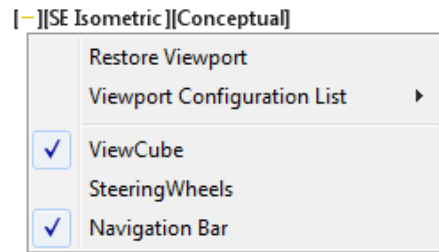

Figure Step 2
Step 2 Click the small dash on the left side of the Viewport Controls menu. Ensure that ViewCube and Navigation Bar are enabled as shown in the figure. (Figure Step 2)